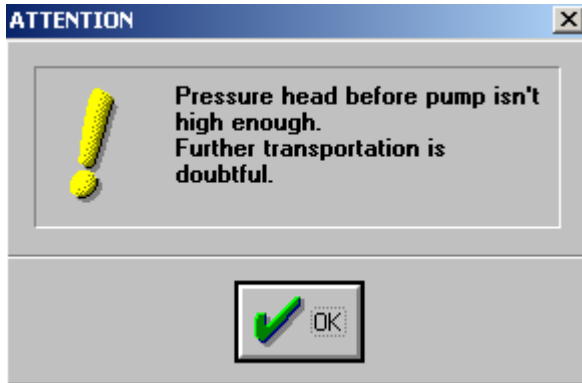

Figure 23.
- Initial level of liquid in the tank / storage is high enough to ensure 'positive' difference of pressure, but for the empty tank / storage the difference of pressure between inlet and outlet of pipeline is negative. In this case the program will show that transfer of liquid is interrupted on some level. The limiting part of the pipeline – before or after the pump – is defined in the message (Figure 23).
The program defines duration of transfer of the liquid from the tank/storage (Figure 27). Usually it has to be duration of pumping necessary for complete transfer of media from the storage. If in some conditions only partial transfer of liquid is possible (see par.5.1), the program will display the calculated pumping duration and the message shown in the Figure 23.